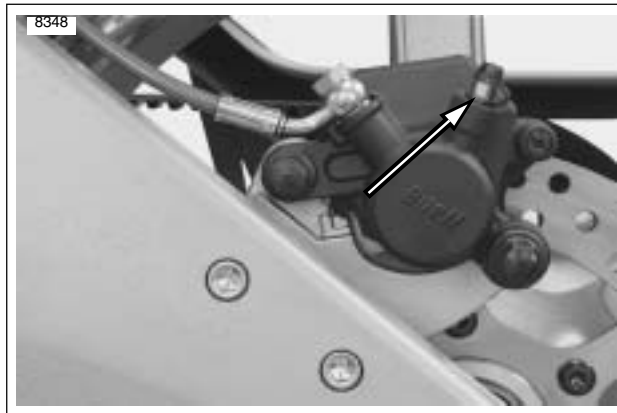

Figure 1-9. Rear Caliper Bleeder Valve
1. See Figure 1-9. With motorcycle in upright position, install end of plastic tubing over rear caliper bleeder valve; place other end in a clean container.